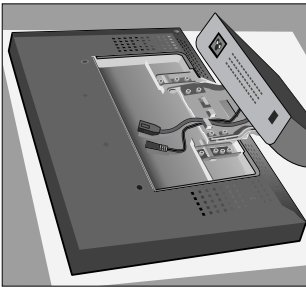

Figure AC.2
3. Place monitor face down on a non-abrasive surface (Figure AC.2).